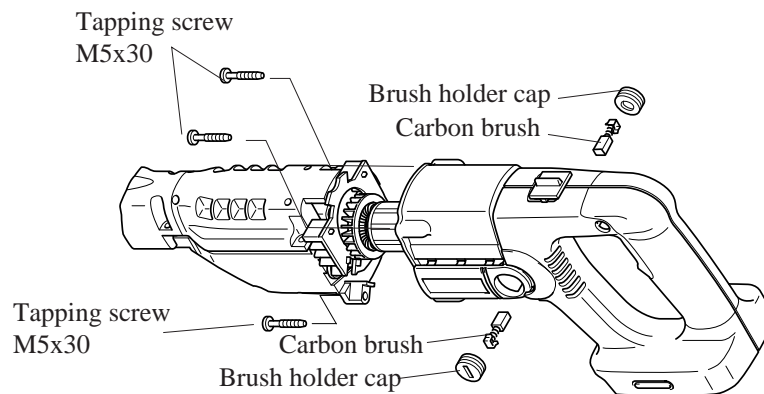

Fig. 20
1. After removing shoe and insulation cover, remove brush holder caps and carbon brushes. And separate the gear housing section from motor housing by unscrewing 4 pcs. of tapping screws M5x30. See Fig. 20.
**< Note > Be careful, not to be pinched your fingers between motor housing and gear housing section in the step of Fig. 20, because armature is dragged strongly by magnetic force of yoke.**
(10) Disassembling handle section